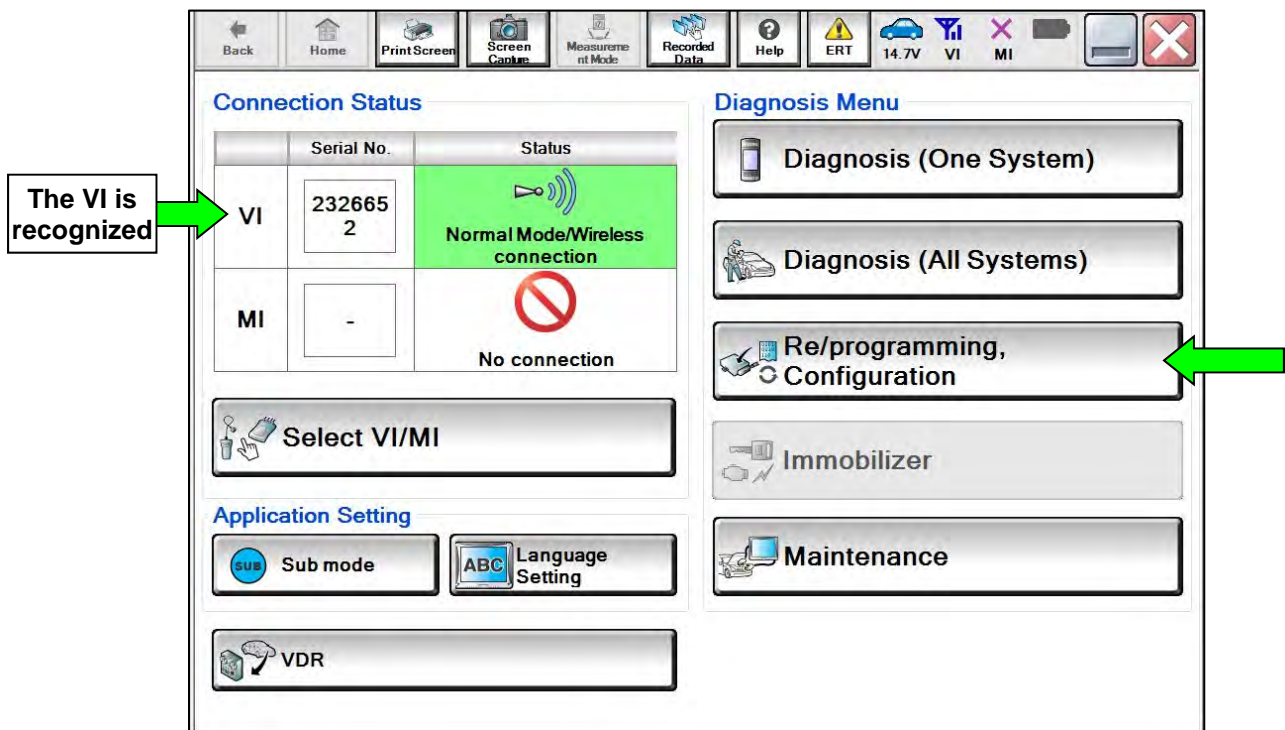

Figure 2
8. Wait for the VI to be recognized (Figure 2).